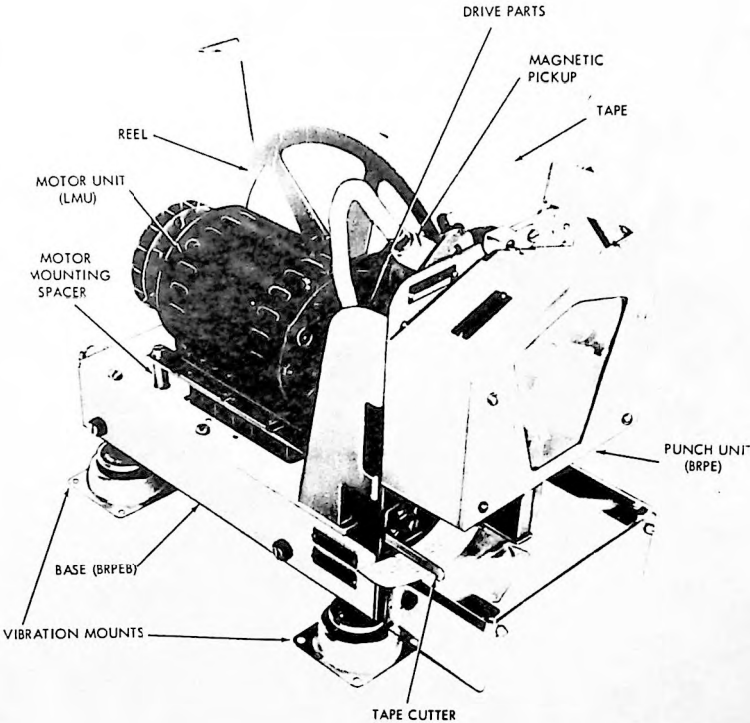

FIGURE 1. HIGH SPEED TAPE PUNCH
- .2 References in the text to left or right indicates the viewers left or right as he faces the front of the equipment. He is facing the front when the tape reel and tape rollers are on his right and the tape cutter is on his left (see Figure 1). Pivot points are shown in the drawings by circles or ellipses which are solid black to indicate fixed points and cross-hatched to indicate floating points.